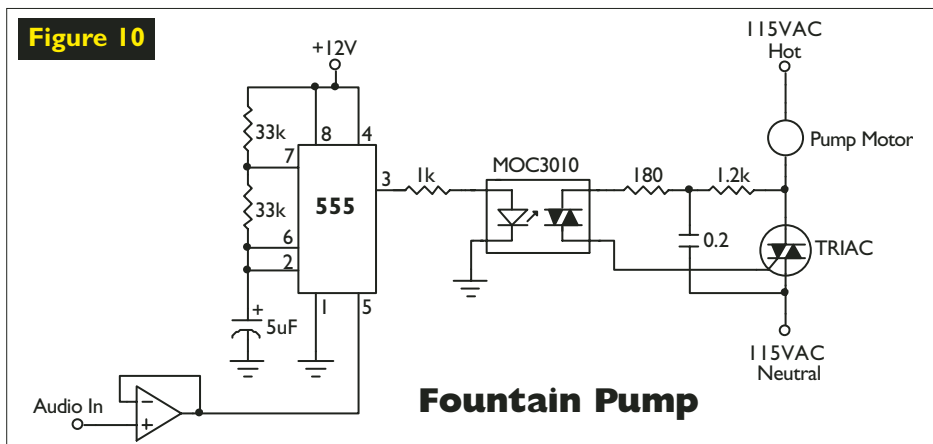

Figure 10
A. Controlling the speed of an AC motor is fairly simple. It’s done all the time in hand drills, but what you’re trying to control is a flow of water, which has a lot of latency — resistance to change in flow. No matter how hard you try, the fountain-head won’t follow the fast-moving audio. The controller needs a low frequency filter to turn sporadic into rhythmic. Here’s what I’d do (Figure 10).